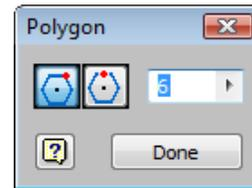

Figure 2-33 The **Polygon** dialog box
**Polygon** The polygons drawn in Autodesk Inventor are regular polygons. A regular polygon is a multi-sided geometric figure in which the length of all sides and the angle between them are same. In Autodesk Inventor, you can draw a polygon with the number of sides ranging from 3 to 120. When you invoke the **Polygon** tool, the **Polygon** dialog box will be displayed, as shown in Figure 2-33, and you will be prompted to select the center of the polygon. The options in this dialog box are discussed next.